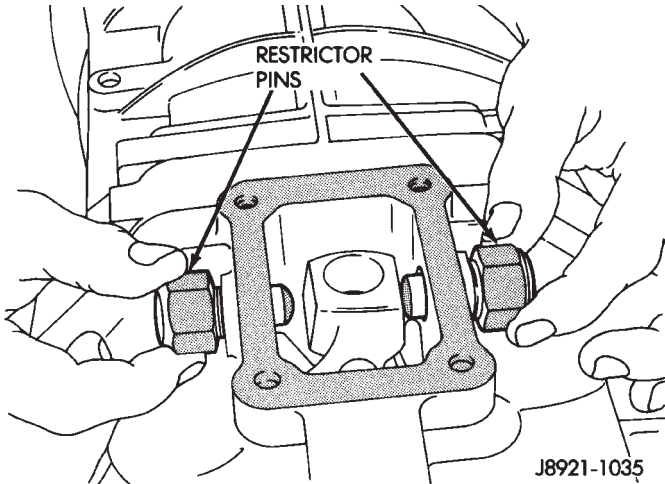

Fig. 5 Removing/Installing Restrictor Pins
(6) Loosen and remove restrictor pins (Fig. 5).